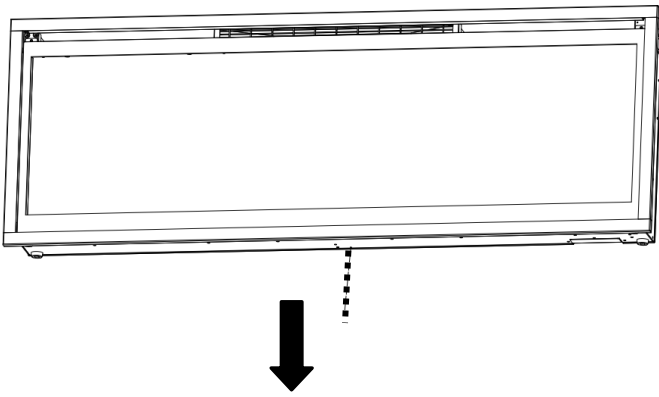

Fig 3-1
B. Remove the silver screw at the bottom of the appliance. **(Fig 3-1)**. Set the screw aside.